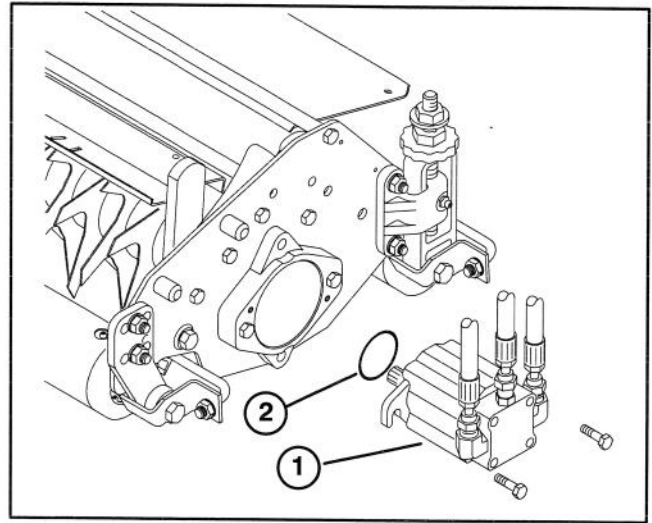

Figure 8
8. Mount motor to drive end of the cutting unit and secure with two capscrews provided (Fig. 8).